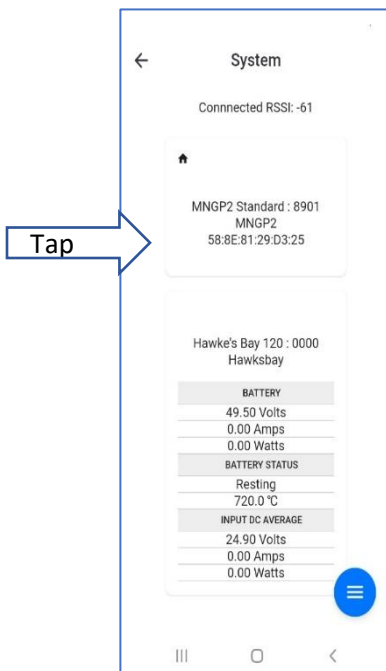

Figure 22
6. The FW app will connect to the Barcelona, then the app will appear as shown in **Figure 22**.